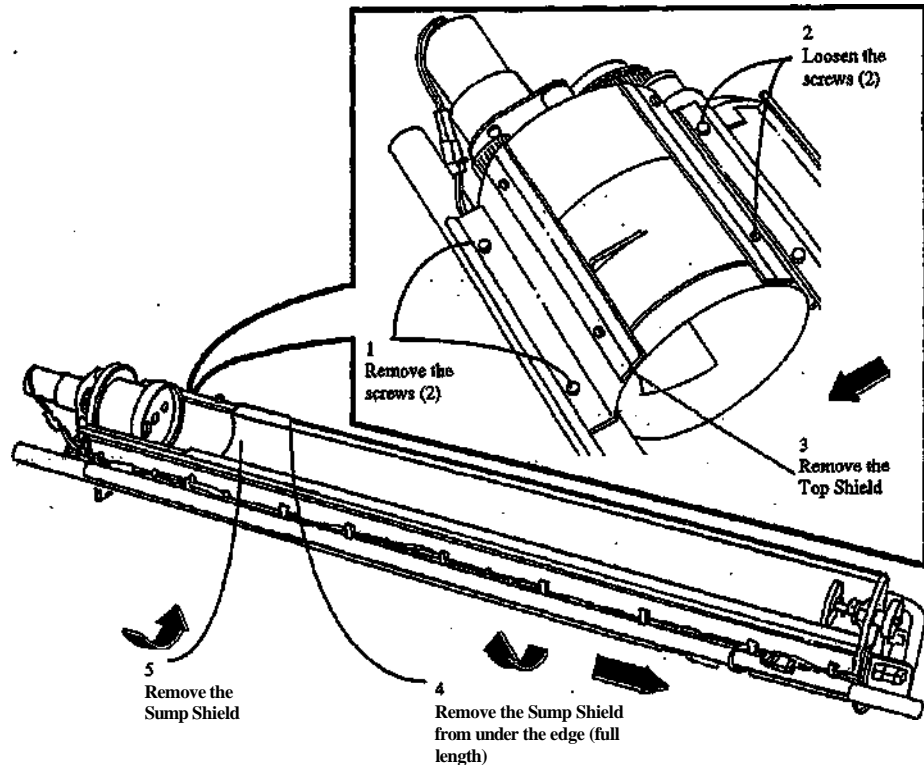

Figure 1. Removing the Sump Shield from the Developer Module
3. (Figure 1): Remove the Sump Shield from the Developer Module.